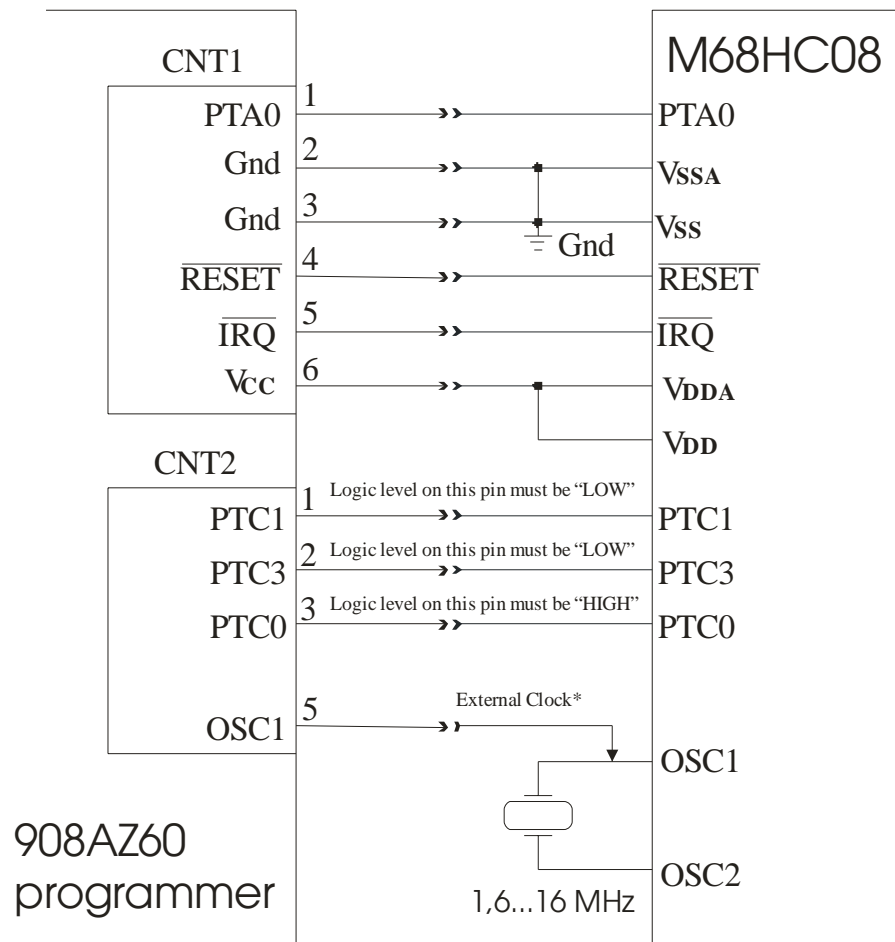

Figure 3. MON08 Circuit
■ **Solutions:** Check MON08 monitor requirements according Appendix Figure 3.